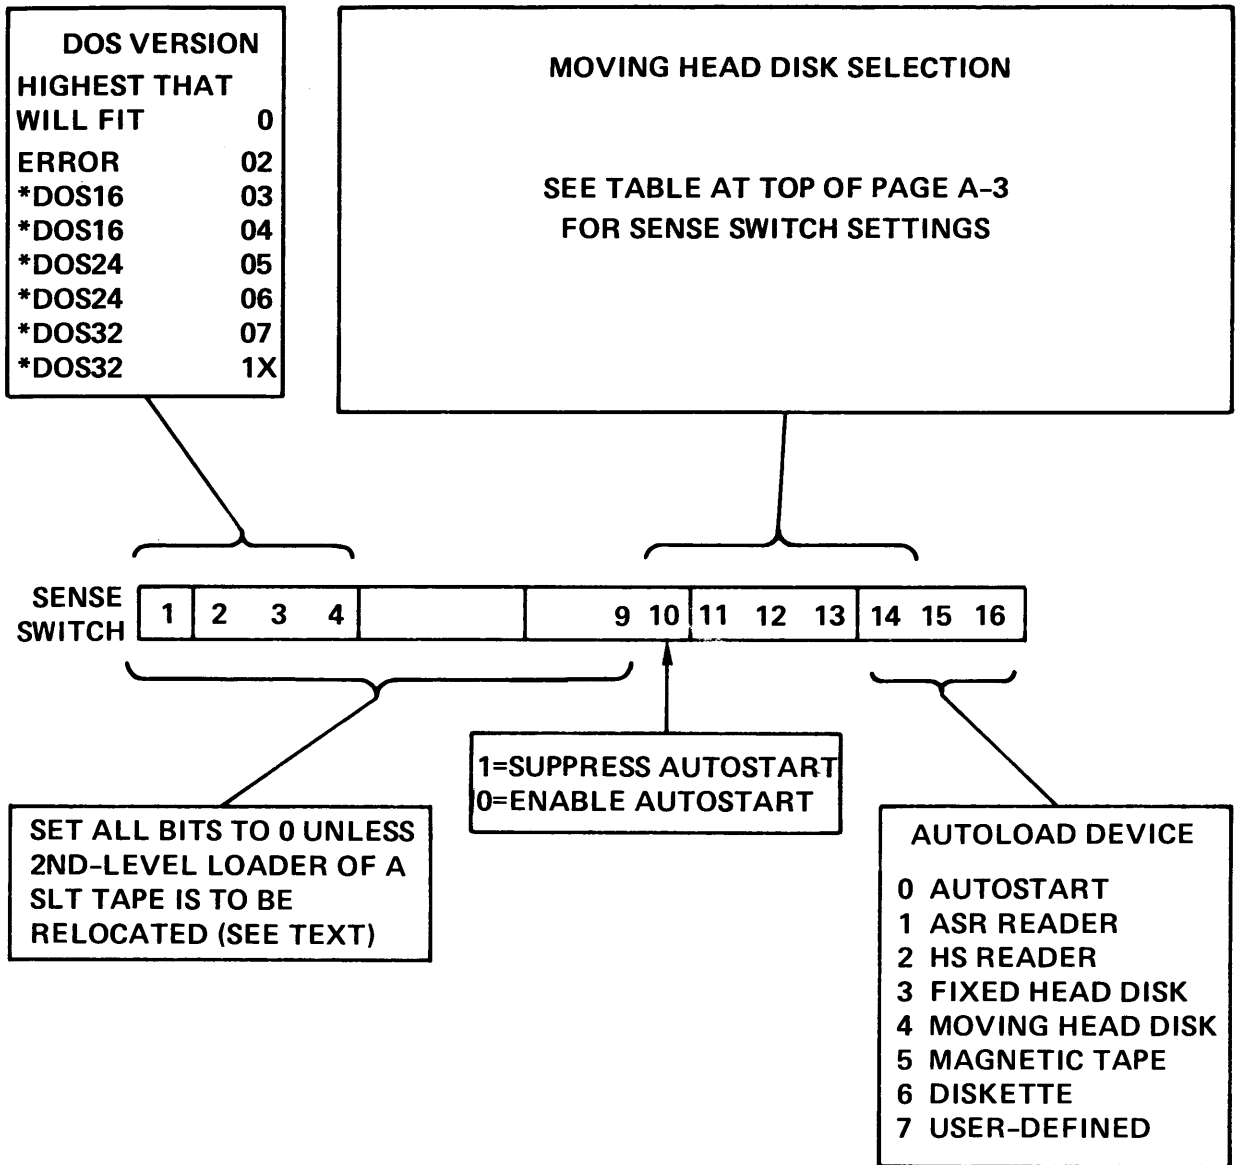

Figure C-2. APL Sense Switch Settings.
2. Select the autoload device (and disk surface, if applicable) in SS11-16 as shown in Figure C-2.